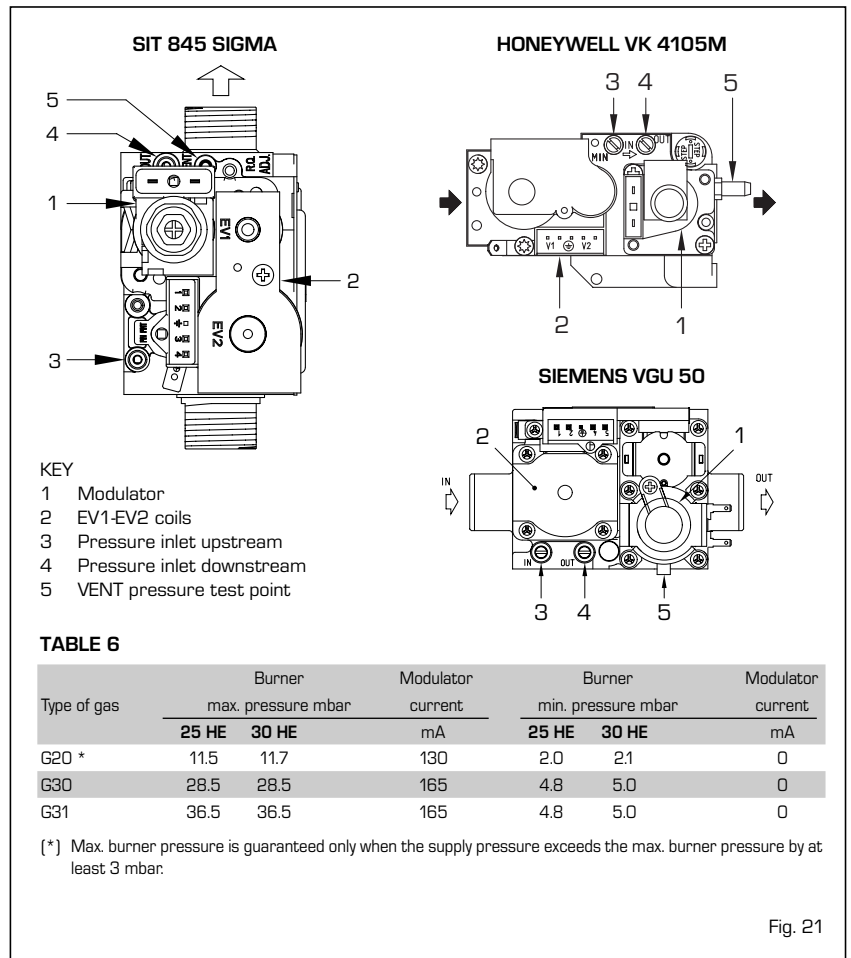

Fig. 21
- **Disconnect the valve VENT pressure test point (5 fig. 21).**
- Remove the cap (1) from the modulator.